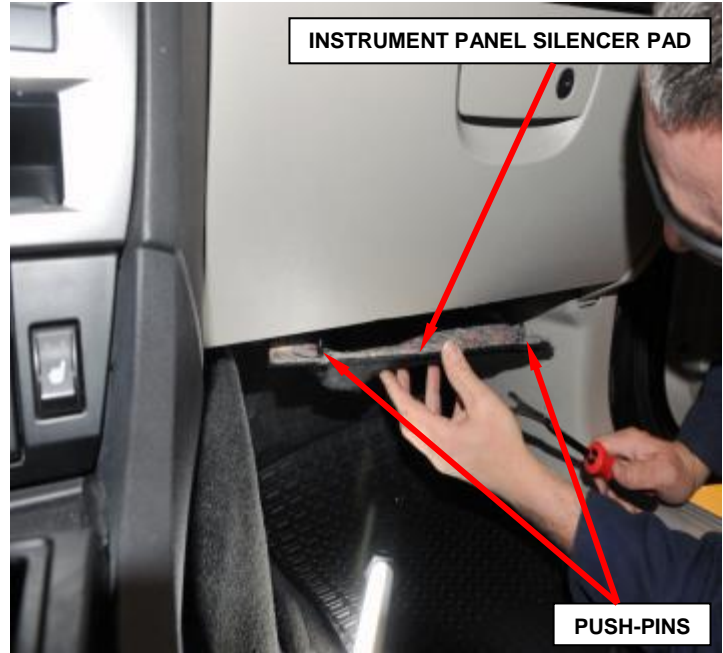

Figure 31 - Instrument Panel Silencer
- a. Remove and save the two push-pins that secure the instrument panel silencer to the instrument panel (Figure 31).